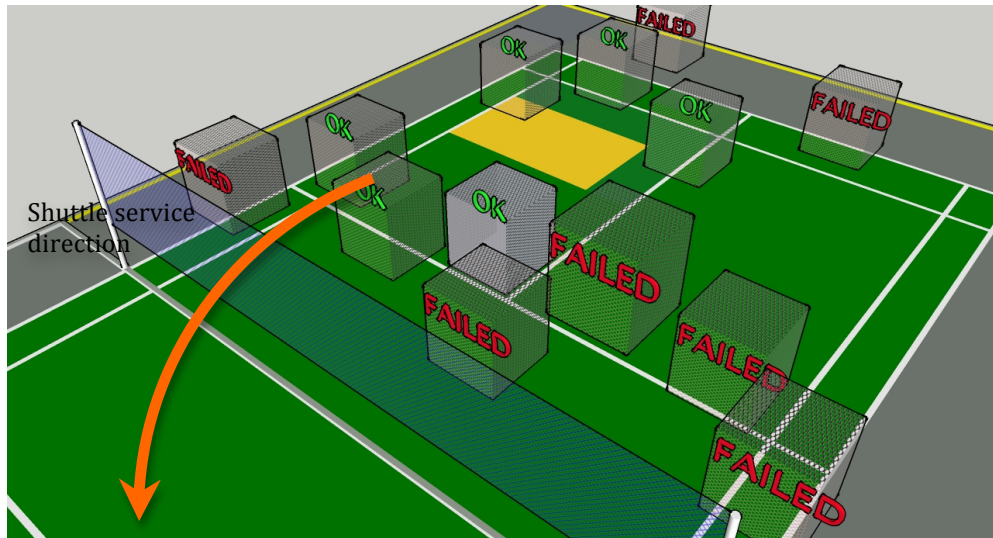

Figure 1: The legal (OK) and the illegal (FAILED) Robot's positions for service.
- 4.4.4. When delivering a service, a part of the robot must be in contact with the right side of the service area (including the border line) of its own zone. (Refer to Fig.1)